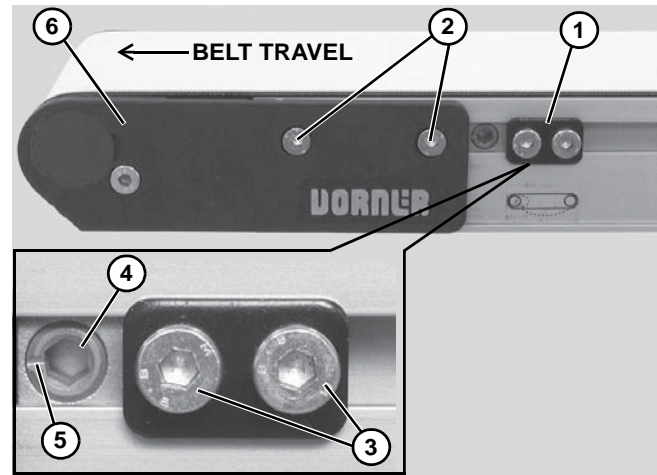

Figure 30
Non V-guided belt conveyors are equipped with belt tracking cam assemblies (**Figure 30, item 1**) for belt tracking adjustment.
5. Ensure head plate fastening screws (**Figure 30, item 2**) on both sides of conveyor are tightened.
6. On both sides of conveyor, loosen two (2) cam fastening screws (**Figure 30, item 3**). Adjust cams (**Figure 30, item 4**) until indicator slots (**Figure 30, item 5**) are horizontal and facing end of conveyor. Then slide cam assemblies against head plates (**Figure 30, item 6**) and re-tighten cam fastening screws (**Figure 30, item 3**) to 60 in-lb (7 Nm).
7. On the side toward which the belt is tracking, loosen head plate fastening screws (**Figure 30, item 2**).
8. With the conveyor running, use a 5 mm hex-key wrench to rotate the tracking cam (**Figure 30, item 4**) in small increments until the belt tracks in the center of the conveyor. Then while holding the cam in position, re-tighten the head plate fastening screws (**Figure 30, item 2**) with a 4 mm hex-key wrench to 60 in-lb (7 Nm).